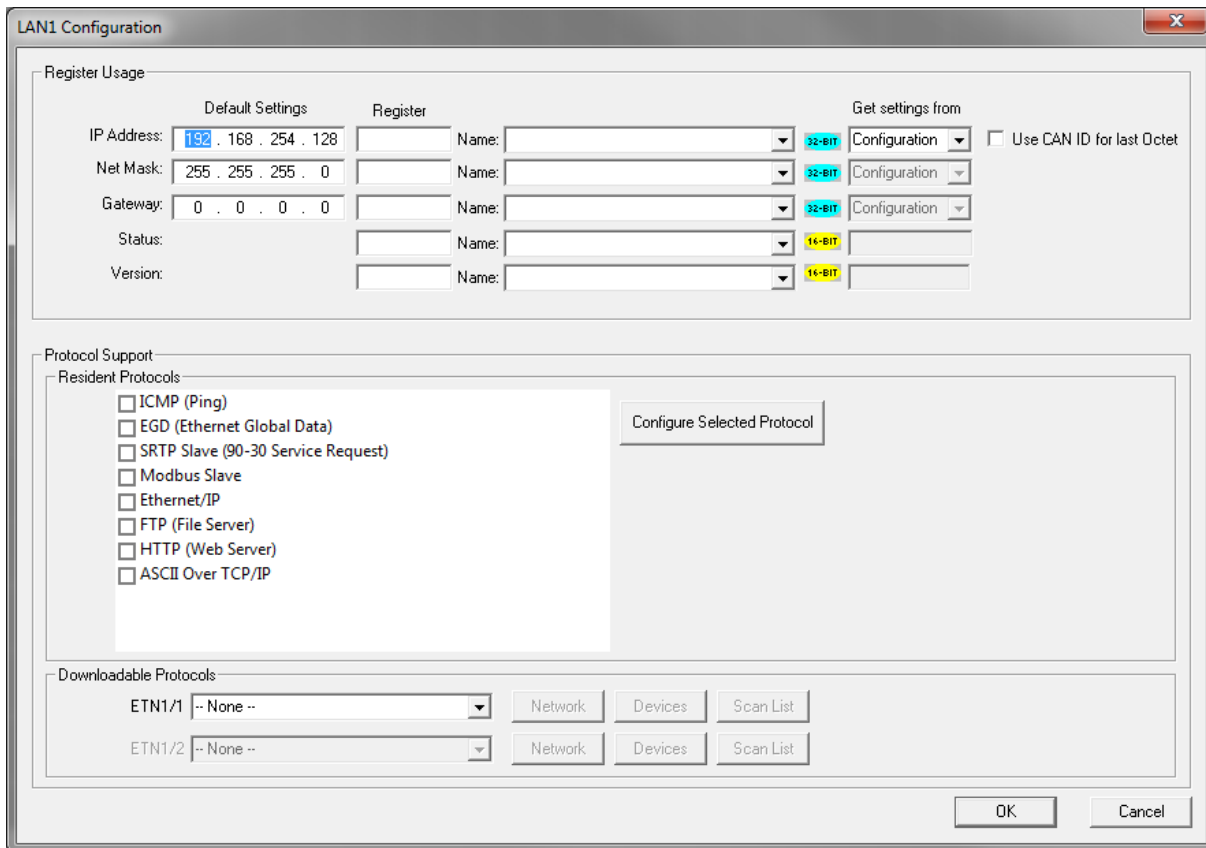

Figure 7.2 – Ethernet Module Configuration
3. Click the **Config** button to the right of the LAN1 Network Port, revealing the Ethernet Module Configuration dialog as shown in Figure 7.2